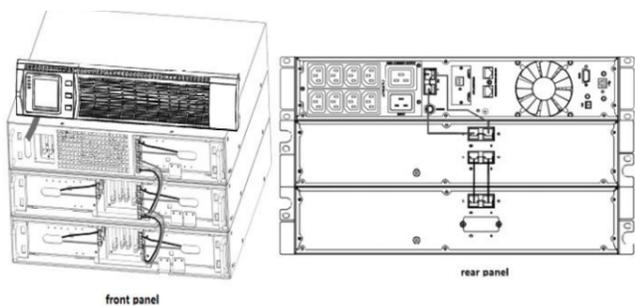

Figure3 Typical EBP Installation
3. Plug the EBP cable(s) into the battery connector(s) as shown in Figure 3.